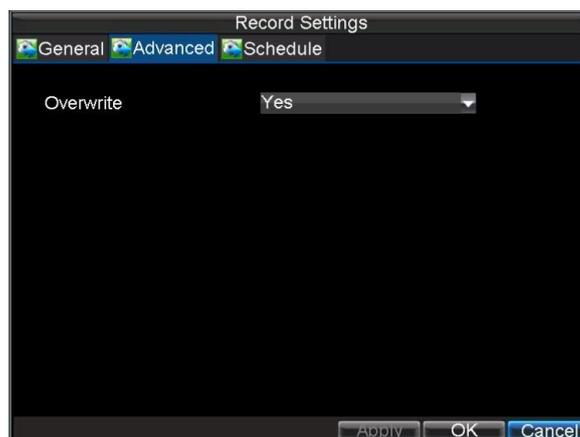

Figure 3. Advanced Record Settings
5. Press the **3DEF/F2** button on DVR front panel to select the **Advanced** tab to access the Advanced Settings submenu, shown in Figure 3.